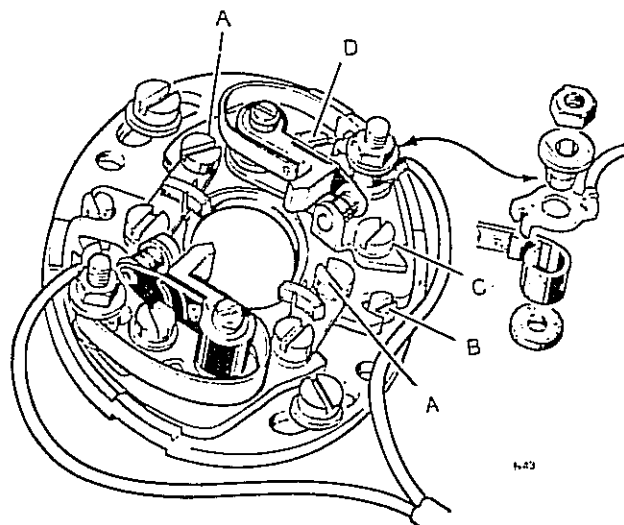

Fig. C50 Lucas contact breaker
- 11 Using the same technique, check that the contact breaker points open at 28° B.T.D.C. on the firing stroke for the second cylinder. If incorrect, make adjustment by movement of the secondary backplate. To do so, slacken screws (A) in *Fig. C50* and use the eccentric headed adjusting screws (B) to move the mounting plate. When timing is correct, re-secure the screws (A).
- 8 If timing is incorrect for the left cylinder, correct by slackening off the clamping screw for the secondary backplate for this set of points then use the eccentric headed adjusting screw to move the secondary backplate (see *Fig. C50*—secondary backplate screws are marked "A" and eccentric screws are marked "B"). Recheck timing with the stroboscope and when correct, secure the screws "A".
The Lucas 6 CA contact breaker was fitted to Commandos produced prior to 1973. All 1973 750's and all 850's have the Lucas 10 CA contact breaker assembly. Both systems have a separate and independently adjustable contact set for each cylinder, see Fig. C50. Each contact set is mounted on its own crescent-shaped assembly plate that is fixed to the circular base plate by two screws (A). When these screws are loosened, the assembly plate can be moved in relation to the ignition cam (and the base plate) by the eccentric screw (B). This permits a very accurate setting of ignition timing for each cylinder.